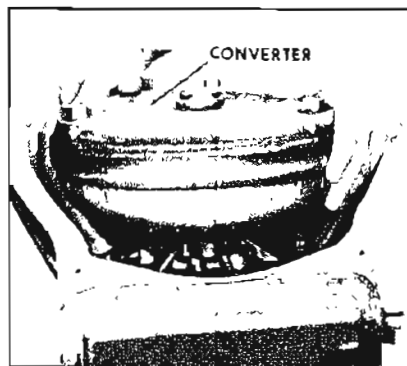

Figure 5-101
2. With transmission in horizontal position pull converter from case. See Figure 5-101.